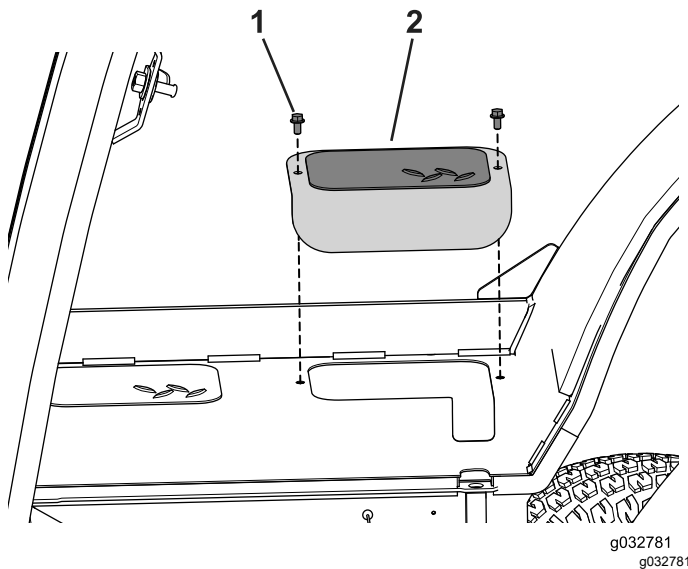

Figure 66
1. Remove the 2 bolts securing the access cover on each side of the machine and set them aside (Figure 66).
7. Remove the lift-bar assembly and install the access cover you set aside earlier (Figure 66).